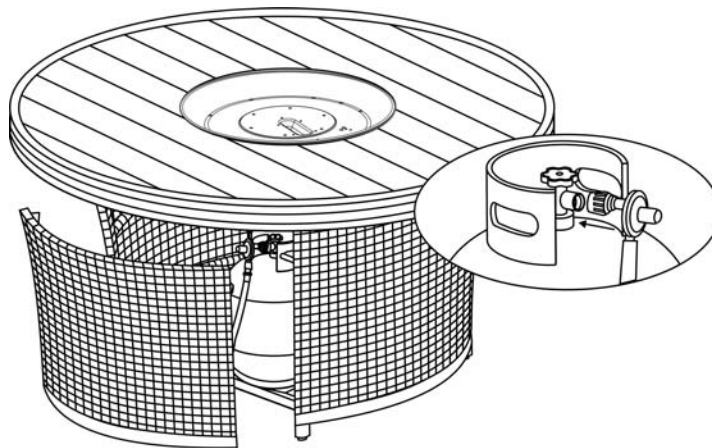

Figure 7
6. Place gas tank onto the LP support as shown in Figure 7. Connect the regulator as shown in figure.8a. Turn the black handle clock-wise to tighten. Turn the handle counter clock-wise to remove. The hose must point down. Check that the valve is turned all the way clockwise to the "OFF" position.